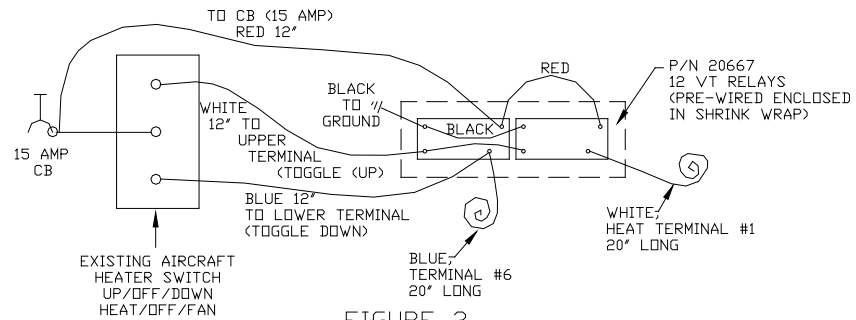

FIGURE 3
- a. If using existing aircraft heater control switch, install P/N 20667, controlling relays in accordance with Figure 3.